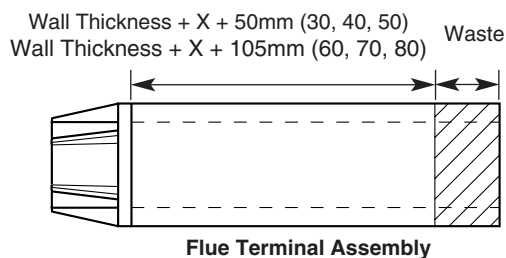

Fig. 49
5. Take the **Flue Terminal Assembly** and measure from the terminal end the dimension below (Fig. 49). Cut the waste off the plain end.